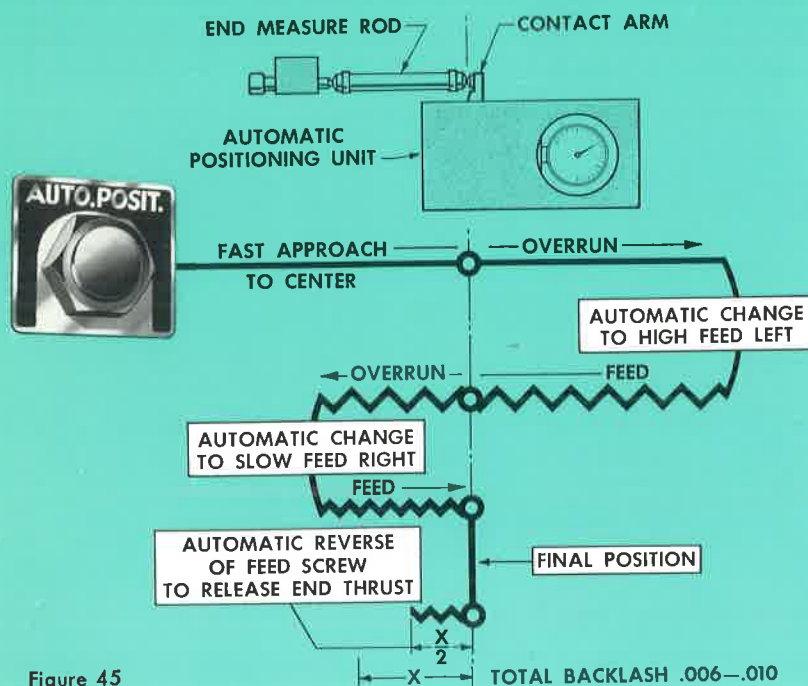
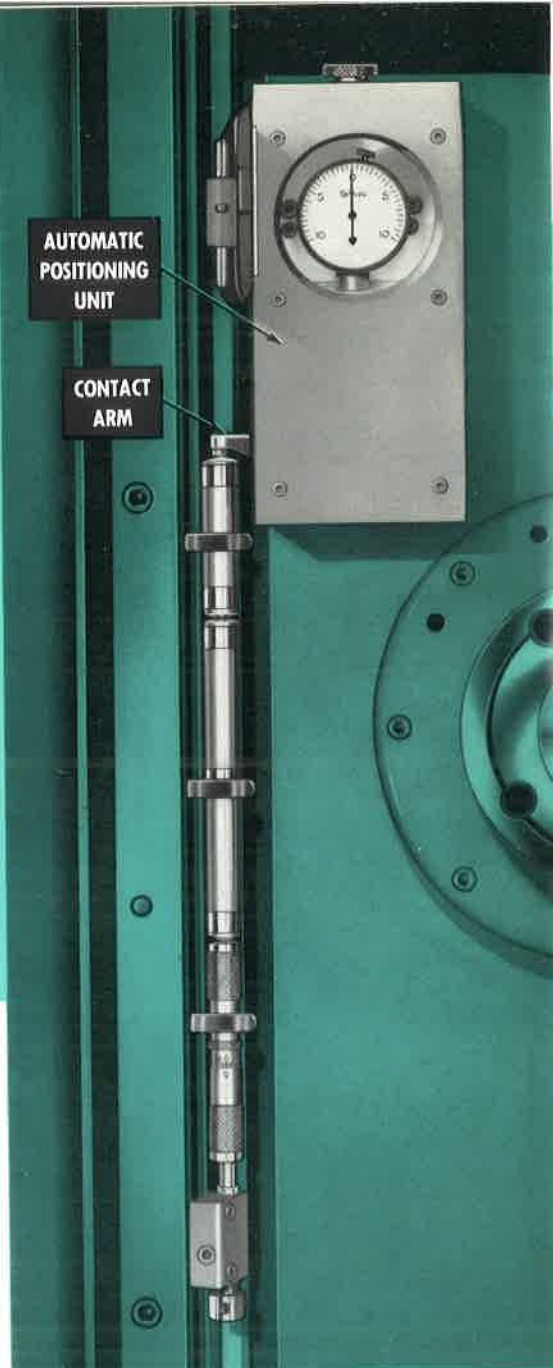

Figure 45
Figure 46
The DeVlieg system of positioning the machine table and spindlehead in the horizontal and vertical planes is performed automatically through a patented sequenced electrical cycle. This important feature provides a means for controlling hole spacing in the workpiece to precise limits of accuracy through the simple operation of a single push button. The diagram, Fig. 45, shows the path of travel of the machine table and spindlehead during the automatic positioning cycle. The sequence of operations is as follows:
2. The push button, Fig. 45, marked "AUTO POSITION" is then depressed, causing the machine table or spindlehead to move by rapid traverse until the measuring element contacts the contact arm projecting from the automatic positioning unit (Fig. 46). The automatic positioning cycle is then completed by oscillating the table and spindlehead about the zero line at successively slower feeds, stopping these elements within precise limits of the position determined by the end measure gages or Duplitrol bars. At the position of final location, the machine automatically releases the end thrust of the feed screw so that the table or spindlehead can be locked securely without affecting its accurate location, and the entire cycle is completed in a few seconds.
Illustration (Fig. 46) shows the automatic positioning unit with built-in dial indicator for controlling the location of the machine's spindlehead in the vertical plane. A similar positioning unit is mounted on the front side of the machine bed for automatically positioning the table in the horizontal plane.